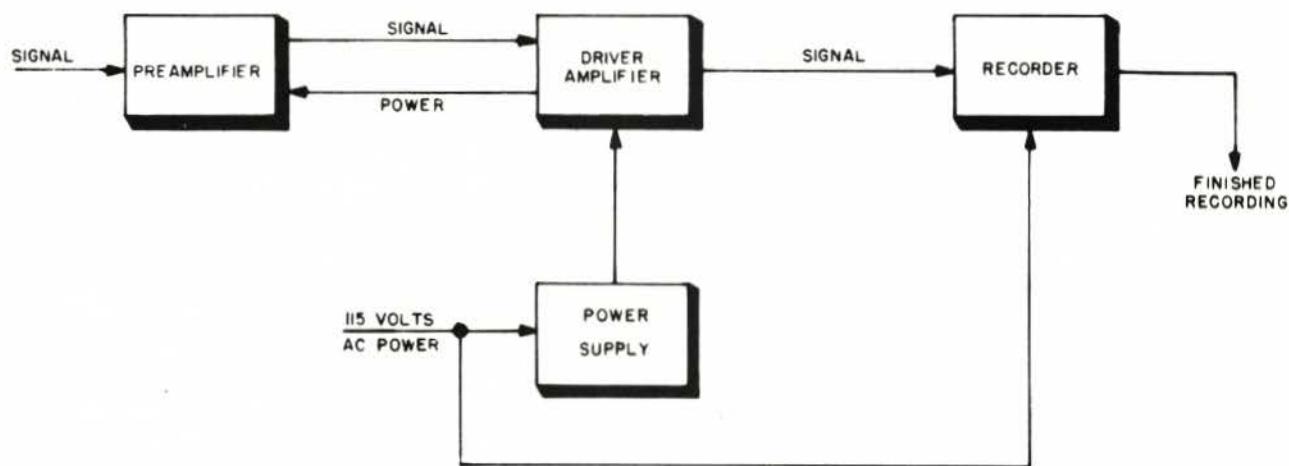

Figure 5. Simplified Block Diagram of "150" Series Recording System.
Figure 5 is a block diagram showing one channel of a Sanborn "150" series Recording System. This drawing shows the possible locations of trouble: (1) the signal and the operating techniques, (2) the power line, (3) the Preamplifier, (4) the Driver Amplifier, (5) the Power Supply, (6) the Galvanometer. This paragraph shows how to track down the trouble by a process of elimination.